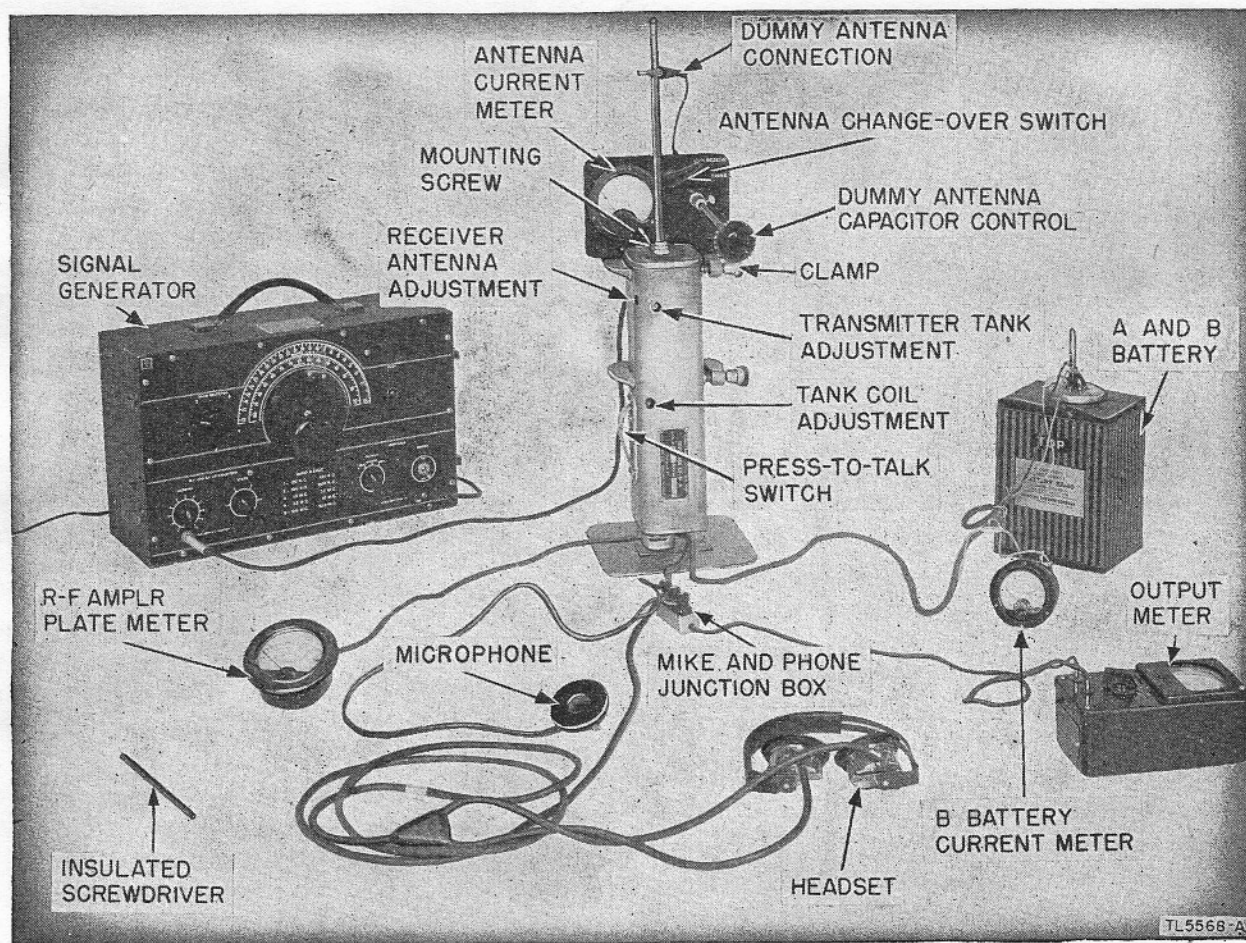

Figure 56. Test Equipment I-15-A, set up.
(1) The resistance of the voltmeter on any range can always be calculated by the following simple rule: Resistance of the voltmeter equals the ohms per volt multiplied by the full-scale range in volts. For example: The resistance of a 1,000-ohm-per-volt meter on the 300-volt range is 300,000 ohms ($R=1,000 \text{ ohms-per-volt times } 300 \text{ volts}=300,000 \text{ ohms}$).
(2) To minimize the voltmeter loading in high-resistance circuits, use the highest voltmeter range. Although only a small deflection will be obtained (possibly only 5 divisions on a 100-division scale), the accuracy of the voltage measurement will be increased. The decreased loading of the voltmeter will more than compensate for the inaccuracy which results from reading only a small deflection on the scale of the voltmeter.
(3) When a voltmeter is loading a circuit, the effect can always be noted by comparing the voltage reading on two successive ranges. If the voltage readings on the two ranges do not agree, voltmeter loading is excessive. The reading (not the deflection) on the highest range will be greater than that on the lowest range. If the voltmeter is loading the circuit heavily, the deflection of the pointer will remain nearly the same when the voltmeter is shifted from one range to another.
(4) The ohm-per-volt sensitivity of the voltmeter used to obtain the readings recorded on the voltage and resistance charts in this manual is printed on each chart. Use a meter having the same ohm-per-volt sensitivity; otherwise it will be necessary to consider the effect of loading.
b. COMPONENTS. Test Equipment IE-15-A consists of the following components (fig. 56):
79. Test Case CS-81-() (figs. 56 and 59)